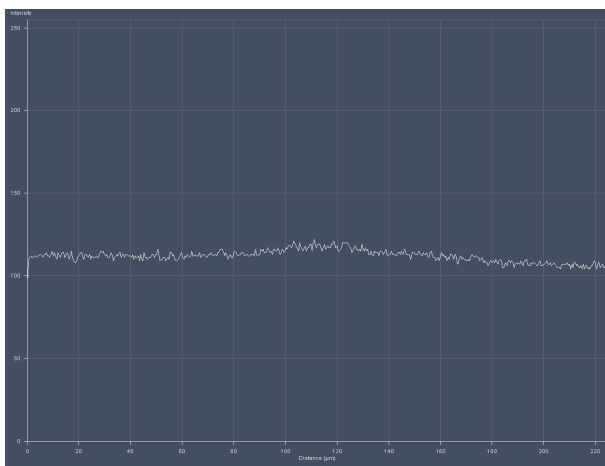

Fig. 285 Line diagram near the lower cover slip surface
- If the focus position approaches the lower cover slip surface, the position of the line will shift to higher values (Fig. 285).